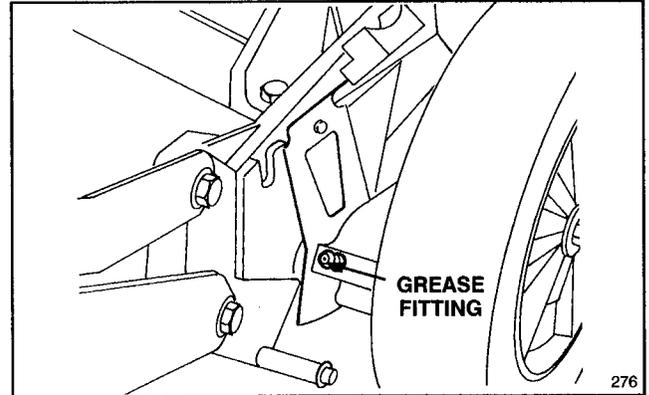

Figure 24
2. **SELF-PROPELLED MODELS ONLY**—Move rear wheel height-of-cut levers to “C” setting. Wipe grease fittings with clean rag (Fig. 24). Install grease gun onto fitting and gently apply 1 or 2 pumps of #2 Multi-purpose Lithium Base Grease. Excess pressure may damage seals.